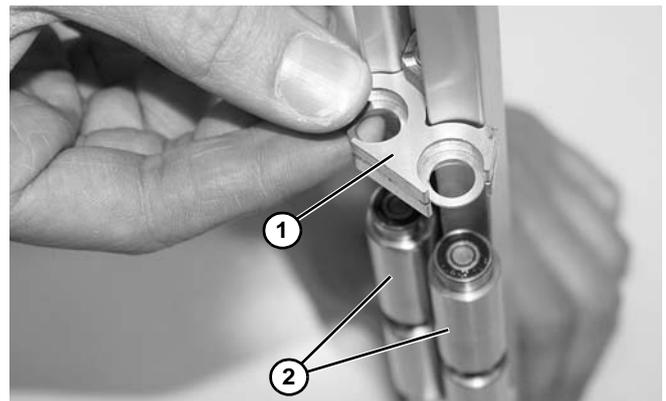

Figure 68
8. Remove bearing carrier (if installed) (Figure 68, item 1) and spindles (Figure 68, item 2).